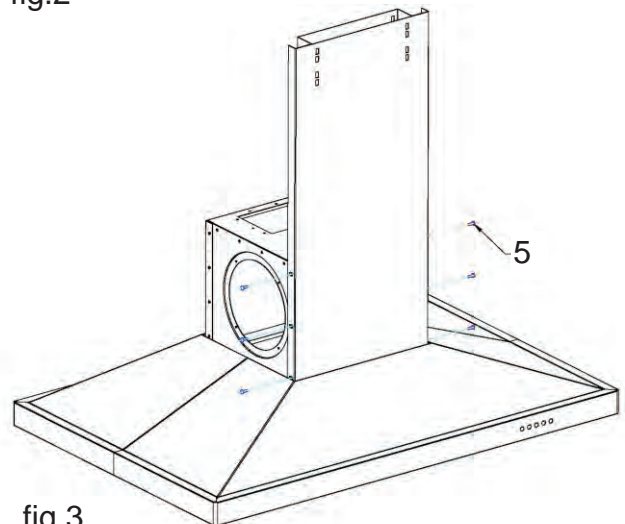

fig.3
**Step three:** Attach the lower portion of the chimney to the motor housing with the screws provided. fig.3